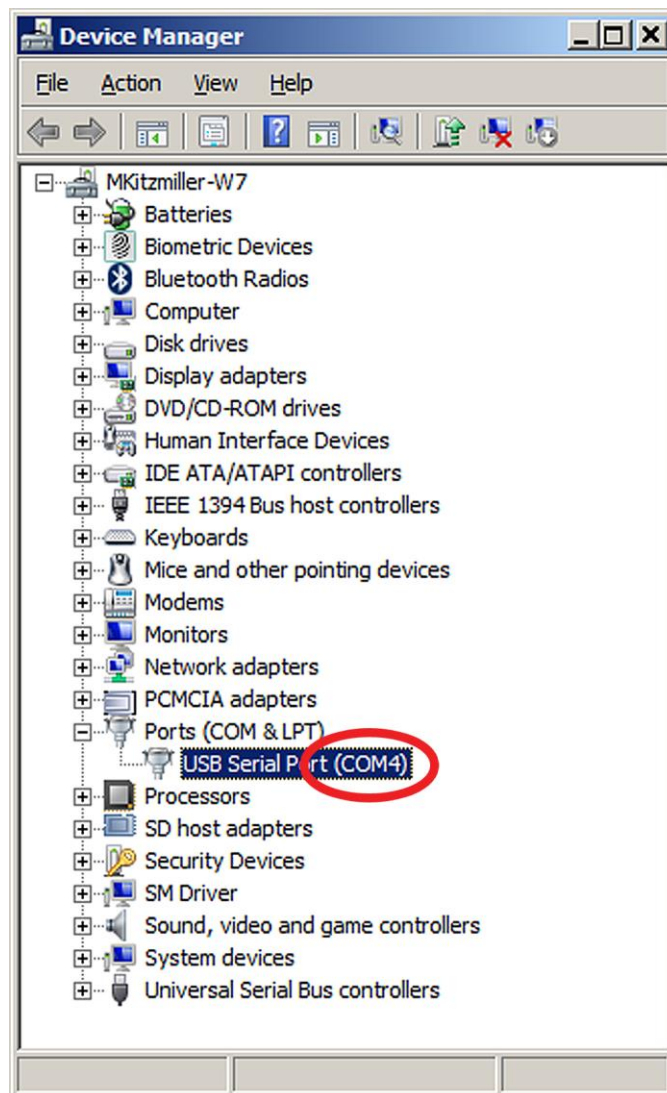

Figure 3-13. Identify What COM port is Assigned to the Controller
3. In Device Manager, open the Ports (COM & LPT) device and make note of what COM port number is assigned to the port into which the serial communications cable is plugged. In the example in figure 3-13, it is COM4.